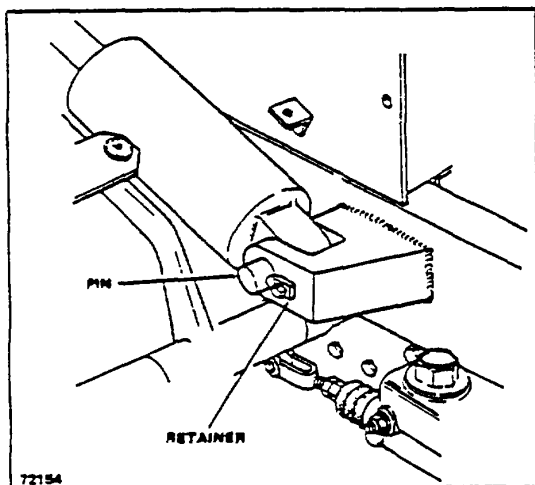

Figure 3-1. Tilt Cylinder Anchor Pin
5. Remove capscrew and pin retainer (Fig 3.1).